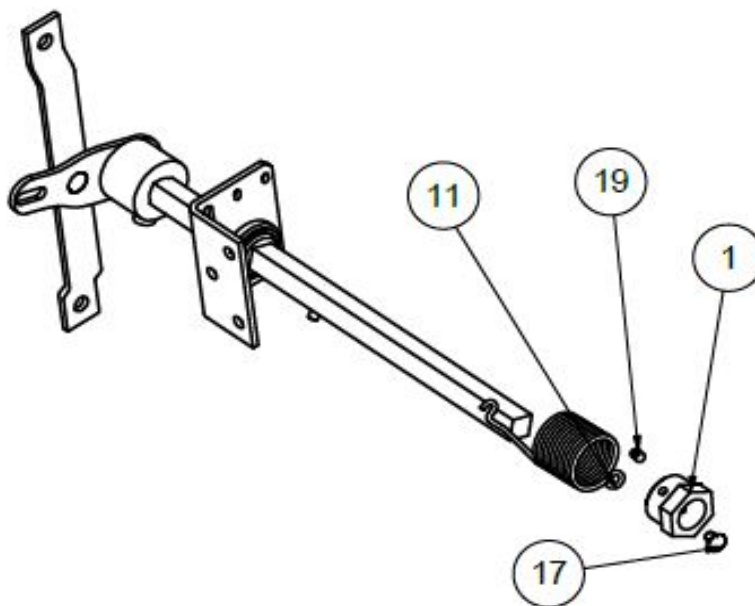

Figure 5
Put the tensioner (1) and the spring (11) on the left side of the driving bar and, if possible, where the governor linkage (22) is located. Insert the spring in the arm on that side, followed by the tensioner. Attach the spring to the tensioner using the DIN 7991 8.8 M6 x 10 screw (17) and hook the other end of the spring into the biggest slot on the base plate. Finally, fix the tensioner to the driving bar using the 2 x DIN 913 - 45H M6 x 8 set screws (19). Pre-tension the tensioner first, so that the spring forces the handle to be held down. See Figure 5.